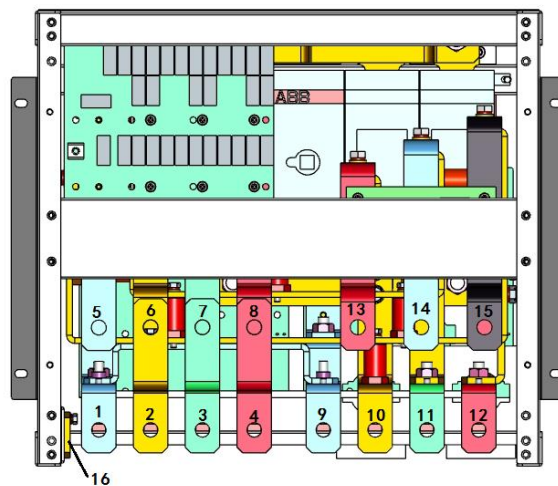
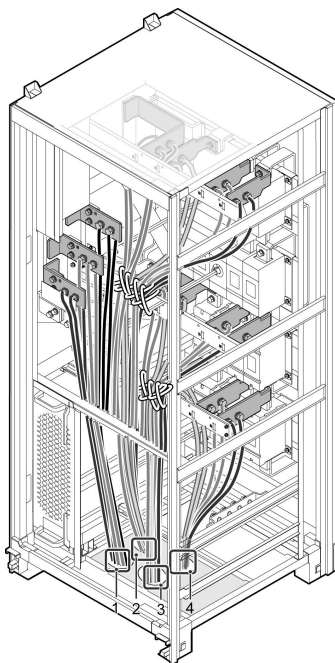

Fig. 2-23 Bottom wiring of power cable (bottom incoming, 300kVA)
Fig. 2-24 Bottom wiring route and binding location of power cables (500kVA)
- The bottom wiring location and route of the power cable are shown in Fig. 2-23 and Fig. 2-24.